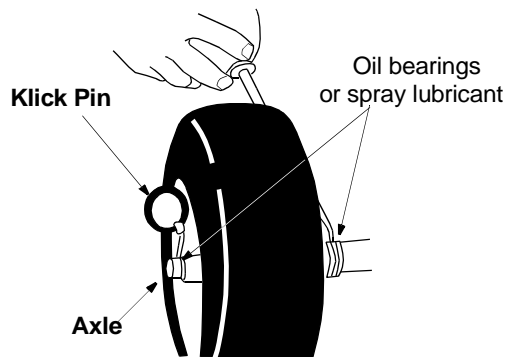

Figure 21
- Oil or spray lubricant into bearings at wheels at least once a season. Pull click pin, remove wheels, clean and coat axles with a multipurpose automotive grease. See Figure 21.